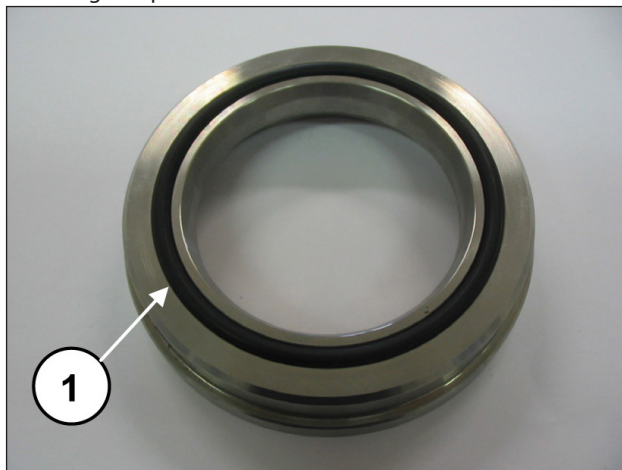

Fig. 198
Now assemble the O-ring (pos. ①, Fig. 198) on the packing head ring and position it in the seat on the head.